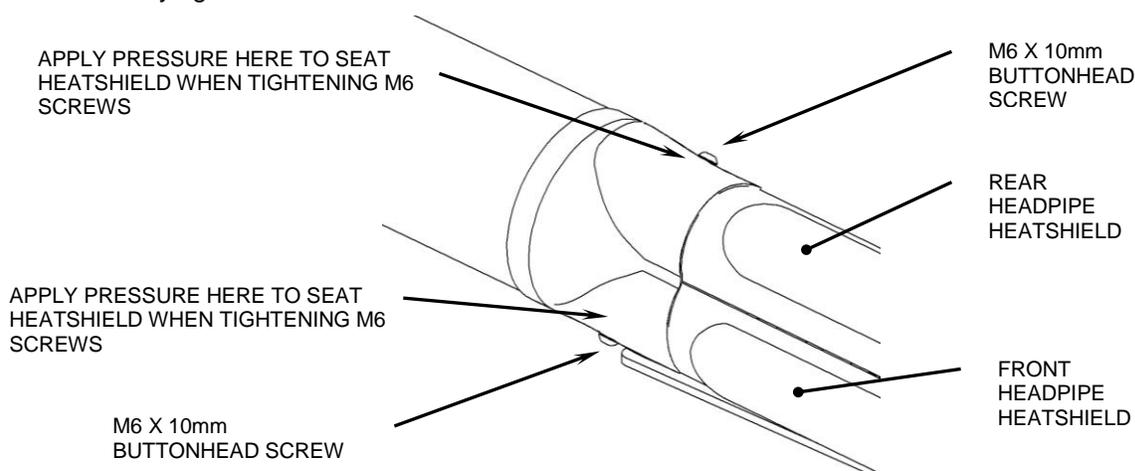

FIGURE 3
8. Check alignment of Cobra intermediate heatshield and be sure it is still properly aligned, snug the M6 X 10mm Buttonhead screws securing the heatshield. Note: It may be necessary to press the heatshield on the top and bottom in the direction of the arrows as shown in Figure 3, and once fully seated firmly tighten the M6 buttonhead screws.